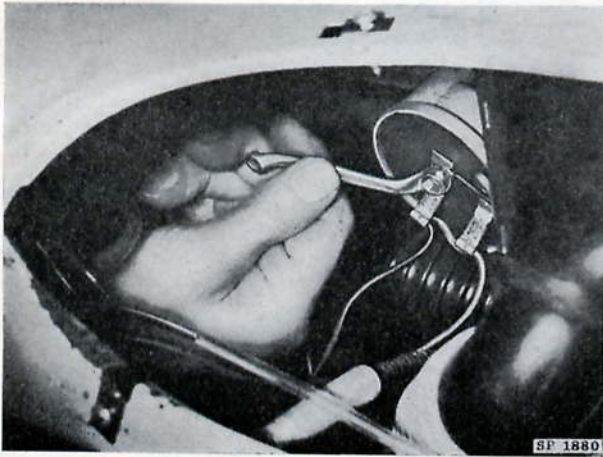

Fig. U.7. Adjusting the wiper motor self-parking switch pin
2. Rotate the hexagon-head pin in the centre of the switch plate as required (Fig. U.7).